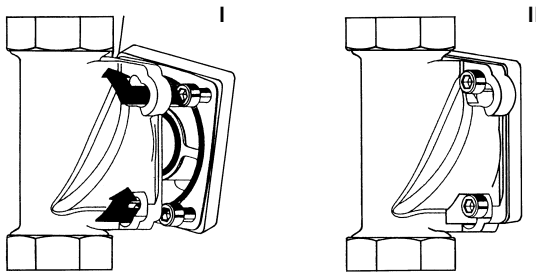

Fig. 4: Dosing pump installation
- / Insert the heads of the four M6×25 hexagon socket head screws through the bayonet holes on the built-in rotary flange (see fig. 4 I).
- / Turn the dosing pump clockwise until it reaches the stop (see fig. 4 II).